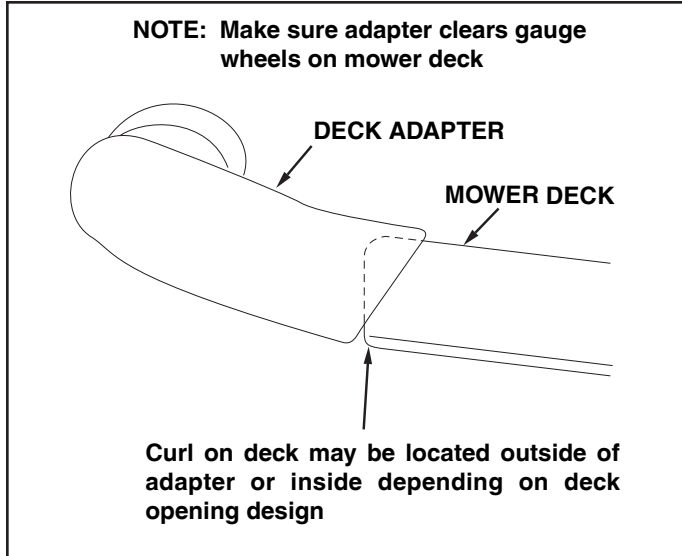

FIGURE 25
- Position the adapter over the deck opening, and check for fit of cutout as shown in figure 25. Trim cutout, if necessary, to allow tilting of adapter, keeping the fit as close as possible for best vacuum suction.